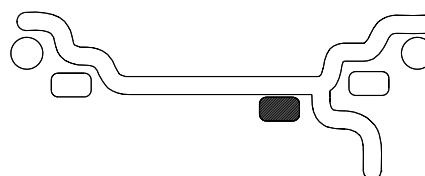

Figure 16
B. STATIC (single plane - Figure 16). Suggested for narrow rims (3" or less). Use a single corrective weight placed in the center of rim as illustrated in Figure 16.